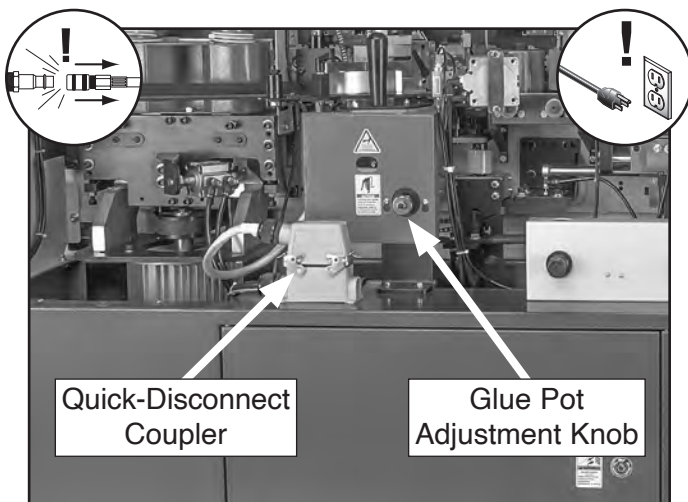

Figure 91. Location of quick-disconnect coupler.
2. Rotate glue pot adjustment knob (see **Figure 91**) all the way *clockwise* to adjust glue pot away from front of machine.
3. Disconnect quick-disconnect coupler (see **Figure 91**).